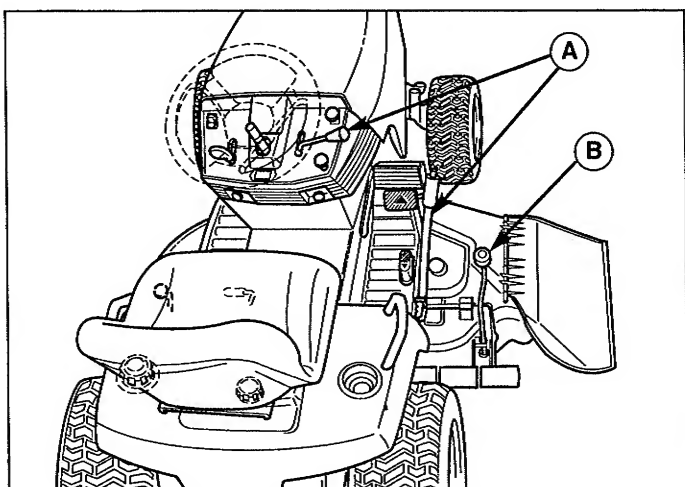

Figure 7. Raising & Lowering Mower
2. Place mower in the lowest cutting position using the mower height adjuster (B, Figure 7).
3. Place mower in the lowest cutting position using the mower height adjuster (B, Figure 7).